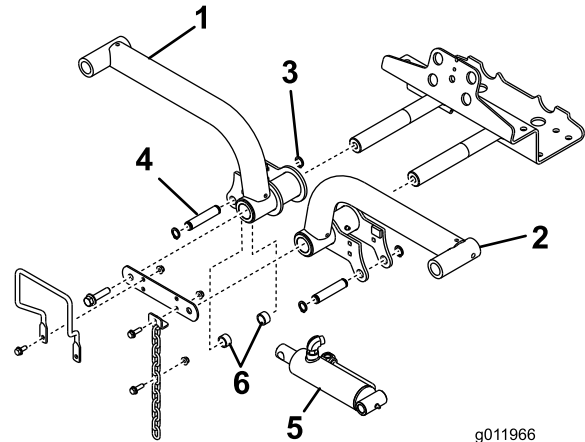

Figure 15
4. Insert the lift arms onto the lift arm pivot shafts (Figure 15), and secure each with a lift arm pivot shaft link and bolts previously removed.
6. Secure the right end of the lift cylinder to the right lift arm with a pin and 2 spacers ((Figure 15)). Secure it with a retaining ring.